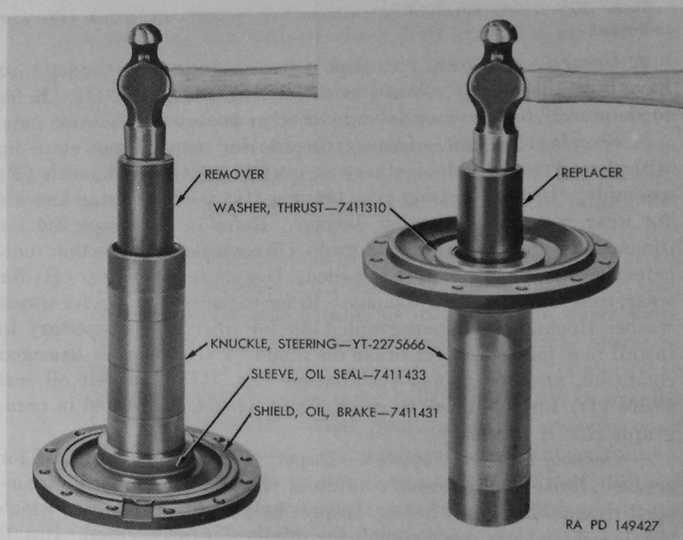
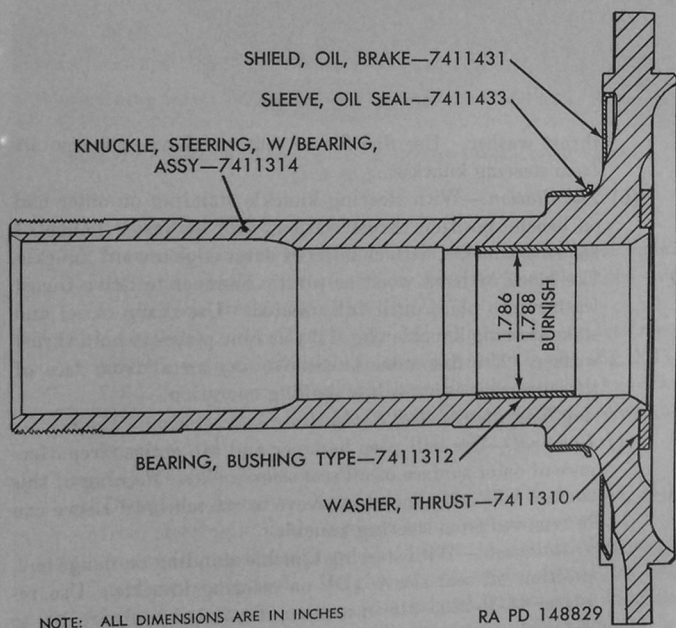
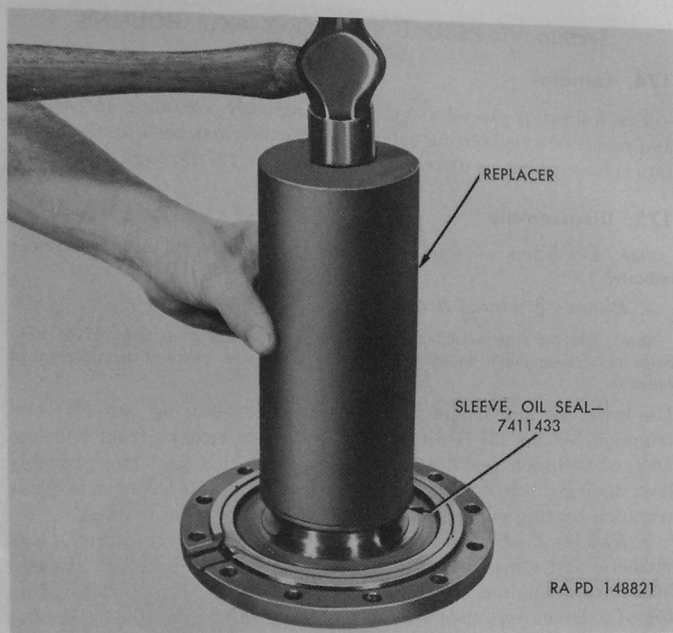

Figure 117. Removing or installing steering knuckle bushing type bearing, using remover 41-R-2369-725 or replacer 41-R-2388-250.
Figure 118. Sectional view of steering knuckle assembly.
Figure 120. Installing oil seal sleeve on steering knuckle using replacer 41-R-2395-518.
b. Steering Knuckle.—Inspect threads for damage and clean up with thread restoring tool, otherwise install new steering knuckle (F) assembly. Inspect bushing type bearing (G) inside steering knuckle for wear, roughness, or other damage. Refer to paragraph 346 for dimensional data, also to paragraph 173*a* whenever inspection indicates that new part should be installed. Inspect thrust washer (H) for wear, roughness, or other damage. Refer to paragraph 346 for thrust washer thickness and paragraph 173*b* for instructions necessary to install new part. Inspect brake oil shield (E) for bent or damaged condition, also for proper installation (fig. 117). Inspect oil seal sleeve (D) for roughness or grooves and replace as directed in paragraph 173*c* if necessary.
c. Steering Knuckle Support.—Inspect steering knuckle (MM) for cracked, broken, or distorted condition. Inspect for stripped or damaged threads in tapped holes. Inspect hole in integral boss to which the tie rod stud attaches for evidence of wear due to loose stud. Install new support if any of the above conditions exist. Inspect $\frac{1}{2}$ -13-20 x $1\frac{15}{16}$ studs (L) for looseness in support, also for damaged or stripped
- (1) *Removal.*—Place steering knuckle in arbor press or on bench and use steering knuckle bearing remover 41-R-2369-725 to press or drive bushing type bearing (G) from steering knuckle (fig. 117).
- (2) *Installation.*—Place steering knuckle in arbor press or on bench and use steering knuckle bearing replacer 41-R-2388-250 to press or drive bushing type bearing (G) into steering knuckle (fig. 117). Shoulder inside steering knuckle properly locates bearing in its correct position (fig. 118). Burnish or grind bearing to 1.786 to 1.788-inch diameter.
- (1) *Removal.*—Use ball peen hammer and tap entire circumference of outer surface of oil seal sleeves (D). Peening of this surface will cause metal in sleeve to stretch until sleeve can be removed from steering knuckle.
- (2) *Installation.*—With steering knuckle standing on flange end, position oil seal sleeve (D) on steering knuckle. Use replacer 41-R-2395-518 in manner illustrated in figure 120 to drive sleeve onto knuckle until edge of sleeve is flush with shoulder on steering knuckle (fig. 118).
- (1) *Removal.*—Insert screw driver on other similar tool under brake oil shield (E) at slot in steering knuckle; then pry shield from steering knuckle (fig. 117).
- (2) *Installation.*—Position brake oil shield (E) on steering knuckle with lip of shield in steering knuckle slot (fig. 117). Use soft hammer and tap shield until fully seated in knuckle. If necessary, stake knuckle in several places to hold shield in knuckle.